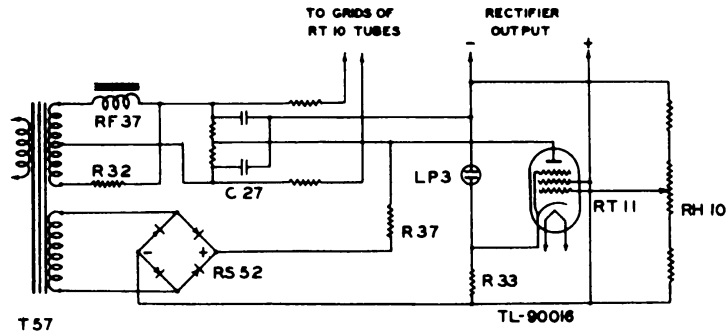

Figure 12. Functional diagram, electronic control circuit.
**14. ELECTRONIC CONTROL CIRCUITS (figs. 12 and 13).**
b. Figure 12 shows the control circuits used for automatic adjustment of the rectifier tube grid voltage to regulate the d-c output of Rectifier RA-43-B. The functioning of this circuit is described in paragraph 14.